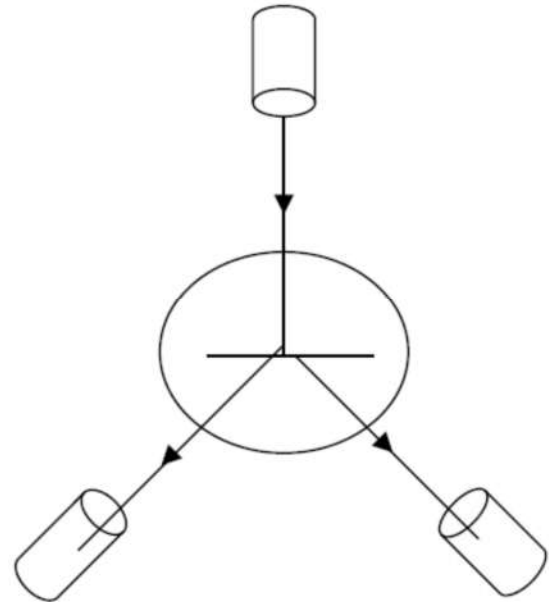

FIG.2
The slit is illuminated by sodium light. The telescope is released to catch the different image of the first order on the left side of the central direct image. The readings in the two vernier are noted. It is then rotated to the right side to catch the different image of the first order, the readings are noted. (Fig.2). The difference between the positions of the right and left sides given twice the angle of diffraction 2θ . The number of lines per meter of the grating (N) is calculated by using the given formula assuming the wavelength of the sodium light as 589.3 nm.